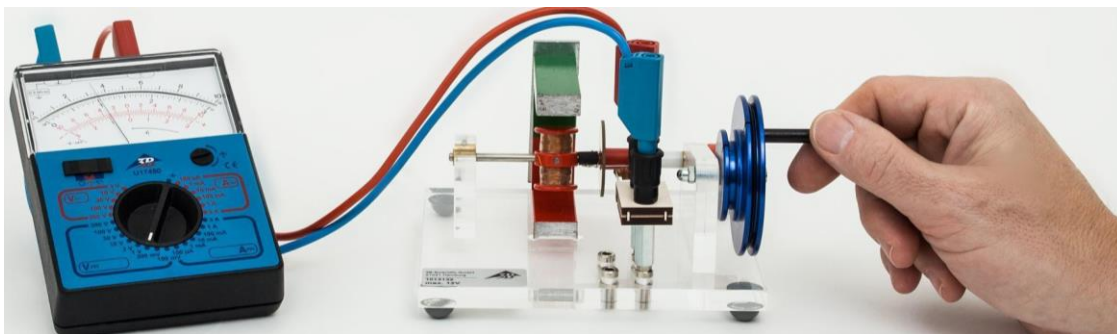

Fig. 3 Operation as a DC motor with ESCOLA 10 multimeter
- Insert the current collectors into the right-hand pair of sockets of the terminal panel on the base plate (see Fig. 3).